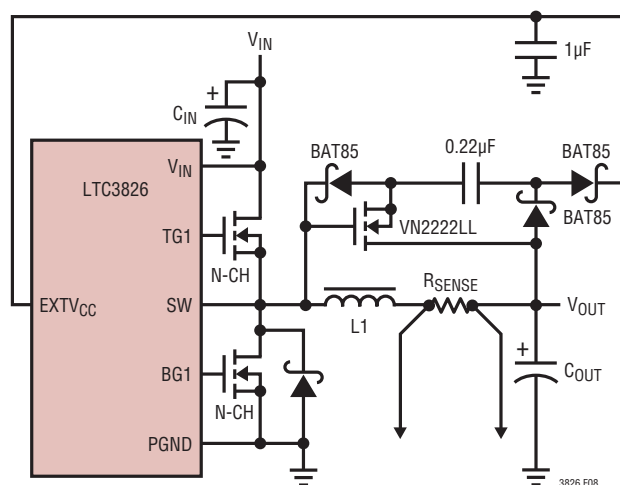

Figure 8. Capacitive Charge Pump for EXT_{VCC}
4. $EXTV_{CC}$ Connected to an Output-Derived Boost Network. For 3.3V and other low voltage regulators, efficiency gains can still be realized by connecting $EXTV_{CC}$ to an output-derived voltage that has been boosted to greater than 4.7V. This can be done with the capacitive charge pump shown in Figure 8.